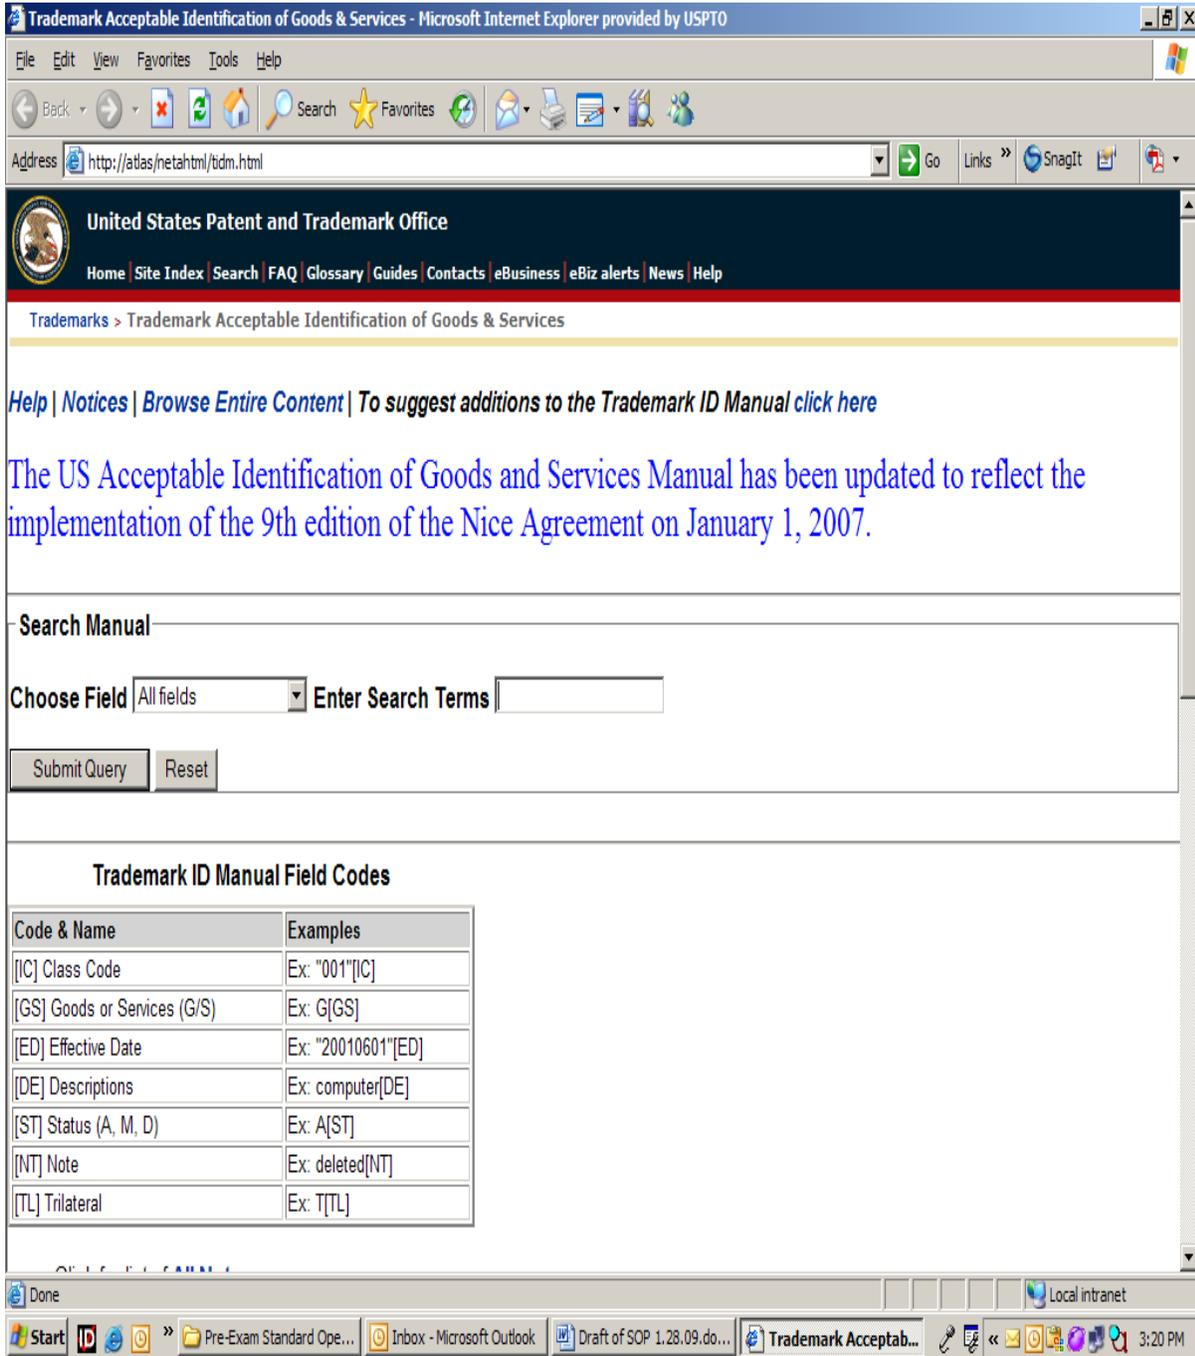

Figure 1-1: The Acceptable Identification of Goods and Services Manual
Step 1: Double click on the ID Manual icon on the desktop, which opens the Acceptable Identification of Goods and Services Manual homepage (Figure 1-1).
Step 2: Click on the “Browse Entire Content” link at the top of the page to browse the manual or use the “Choose Field” drop-down menu and the “Enter Search Terms” field to search for a particular class (Figure 1.1)